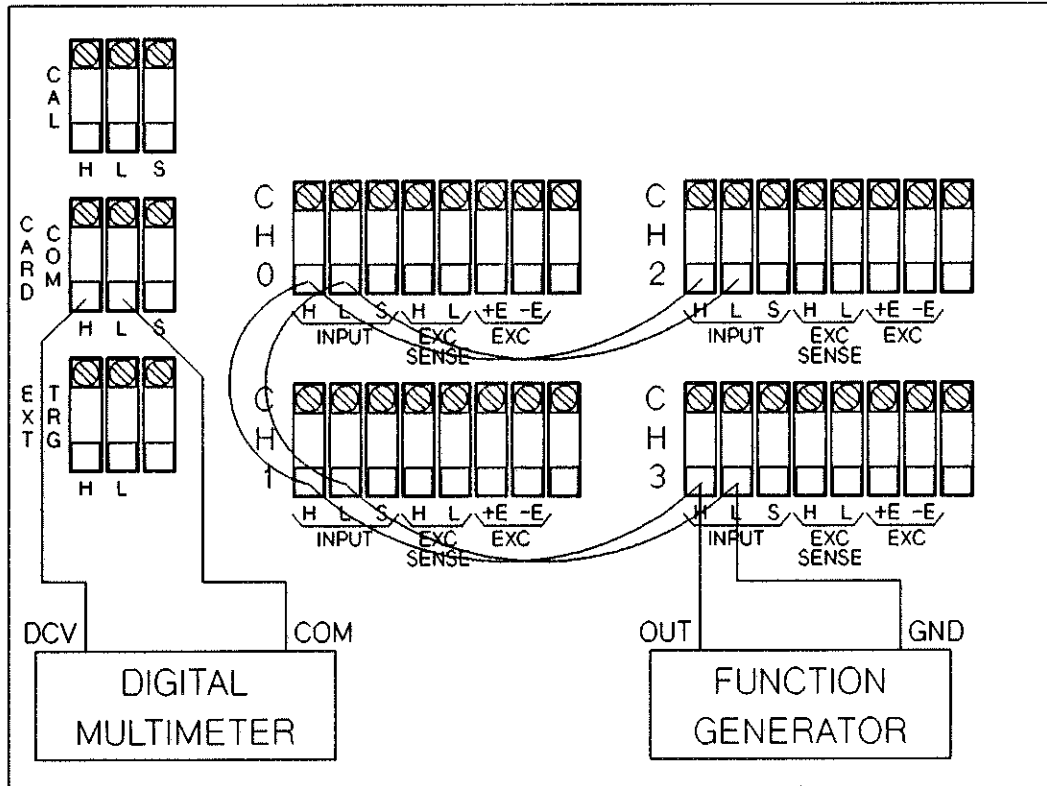

Figure 20-6 Function Generator Test Connections
2. Refer to Figure 20-6. Connect the digital multimeter to the CARD COM H and L output terminals on the test fixture. Connect the function generator to the H and L Input Connections on the test fixture.
4. Refer to Figure 20-6. Connect the digital multimeter to the CARD COM H and L output terminals on the test fixture. Connect the function generator to the H and L Input Connection